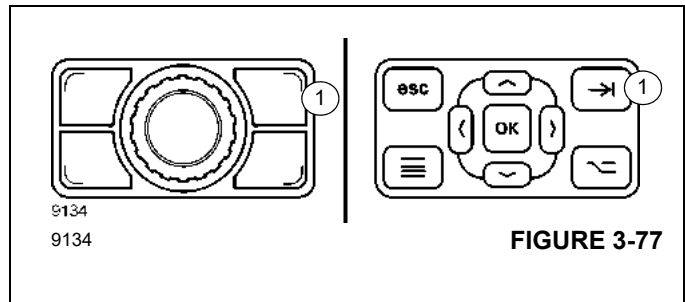

FIGURE 3-77
2. Press the upper right button (1), (Figure 3-77) on the jog dial panel or the control panel.